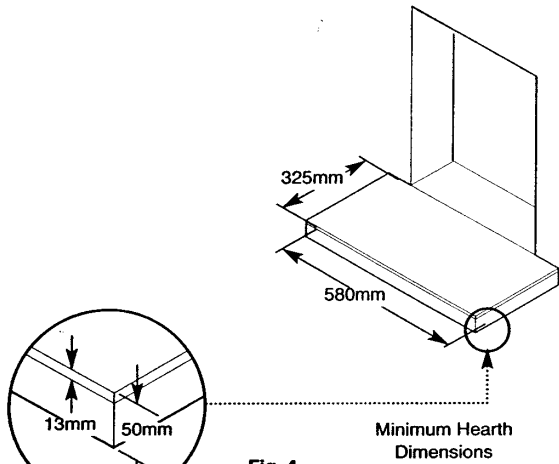

Fig. 4
1. The fire is intended to be hearth mounted only. The hearth must be of a non-combustible material at least 13mm (1/2 in) thick and measuring at least 325mm (12 7/8 in) deep, measured from the mounting wall face, by 580mm (22 27/32 in) wide. It must be fitted central to the fireplace opening. The top surface of the hearth should be a minimum of 50mm (2 in) above floor level (Fig. 4).